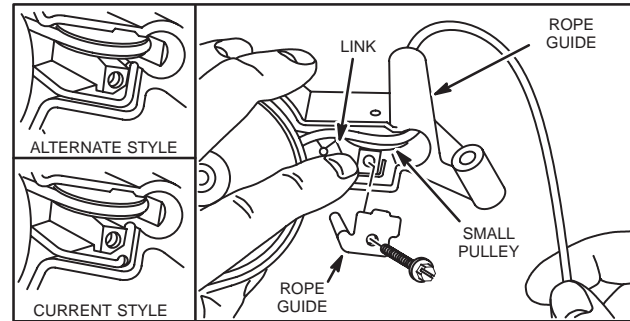

Fig. 630 – INSTALLING PULLEY ASSEMBLY
- Install small pulley, rope pulley pin, and rope guide, Fig. 630.